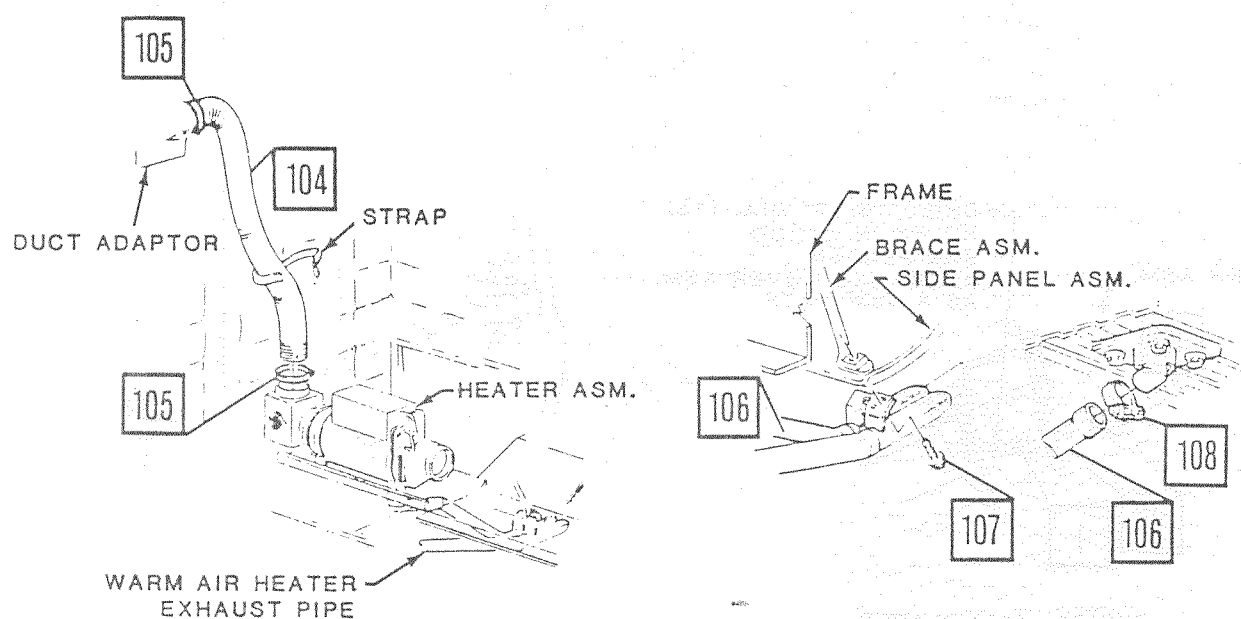

Figure 30.
97. Attach hose assembly to front of warm air heater and duct adaptor with clamps, and tighten clamps to 23-30 lb.-in. (2.6-3.4 Nm) (Figure 30.). Secure to cover through strap on cover.
98. Install warm air heater exhaust pipe to heater exhaust outlet with clamp (Figure 30.). Tighten clamp to 75-95 lb.-in. (8.5-11.0 Nm).
99. Secure end of clamp to brace in front of right rear wheel (Figure 30.). Tighten to 15-22 lb.-ft. (20.0-30.0 Nm).